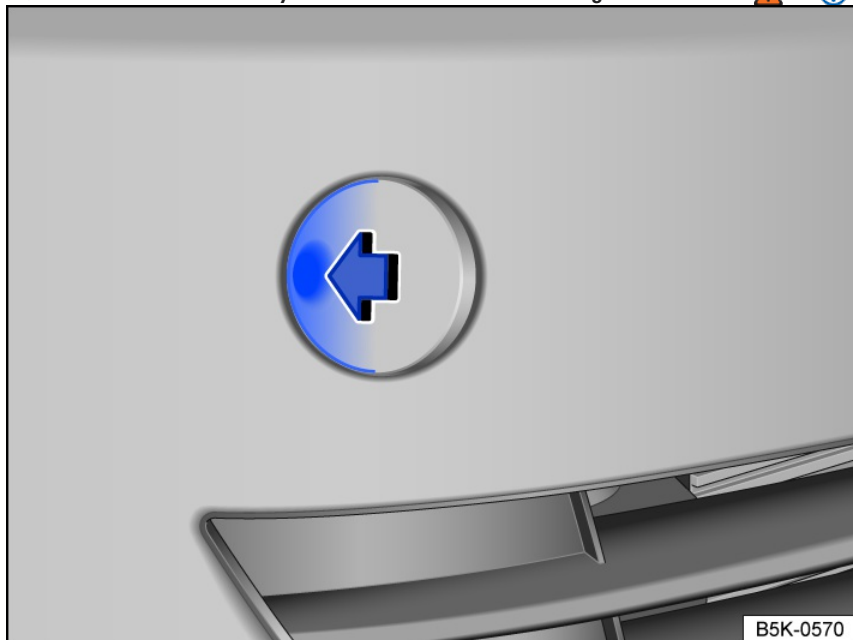

Fig. 144 In the right front bumper: Remove cover.
- Press on the side of the cover (arrow) to release the lock on the cover *fig. 144*.